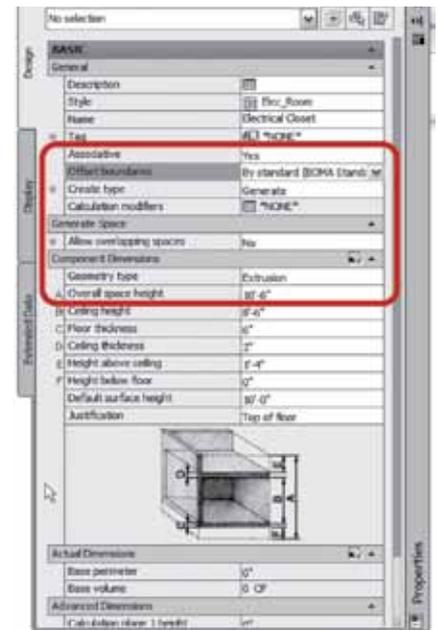

Figure 7: Properties Palette
2. In the Properties palette, choose the Generate option for the create type and choose the desired geometry type of the space object. For the Offset boundaries property, choose 'By standard (BOMA standard)' as shown in Figure 7.